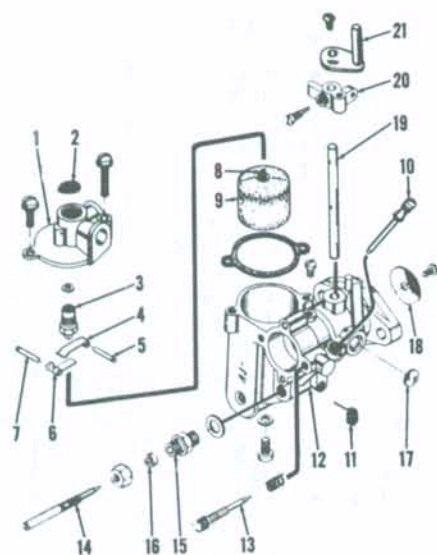

Fig. M1-1—Exploded view of Tillotson carburetor of the type used on all models.
CARBURETOR. Tillotson AJ series, float type carburetors are used on all models. Refer to Fig. M1-1. Initial setting for the high speed (main) mixture needle (14) is 1 1/2 turns open. Initial setting for idle mixture needle (13) is 1 turn open. To adjust, run motor until it reaches normal operating temperature, then shift to forward gear and move speed control to fast. Slowly turn high speed needle (14) clockwise until motor falters or slows down because mixture is too lean. Then, back needle out approximately 1/2 turn until mixture is correct. After setting high speed needle (14), slow engine speed and adjust idle mixture with needle (13). Turning needle (13) clockwise, leans idle mixture. Recheck high speed adjustment after changing idle speed mixture.